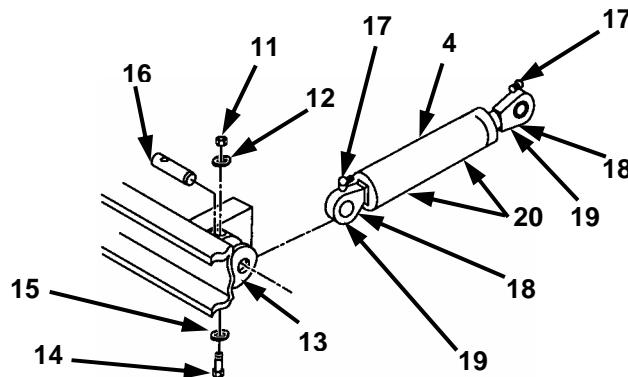

Figure 2-9. Track Adjusting Cylinder (3 of 3).
- e. Remove locknut (5), washer (6), screw (9), washer (8), pin (7), and hydraulic track adjusting cylinder (4) from final drive adjusting flange (10). Retain parts for future use.
- f. Remove locknut (Figure 2-9, 11), washer (12), screw (14), washer (15), pin (16), and hydraulic track adjusting cylinder (4) from hull mounting bracket (13). Retain locknut, washers, screw, and pin for future use. Set aside hydraulic track adjusting cylinder for disposition per Chapter 1, Section 1-8, step c.